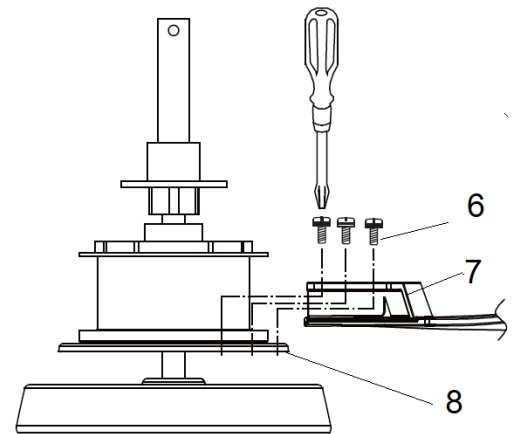

Fig. 5
- Align the 3 mounting holes on the blade (7) to the 3 mounting screw holes on the motor (8) and secure using 3 blade screws (6). Ensure the screws are tightened equally and evenly to reduce the chance of warping or unbalancing. Take care not to over tighten the screws as this can damage the blades. (Fig.5)